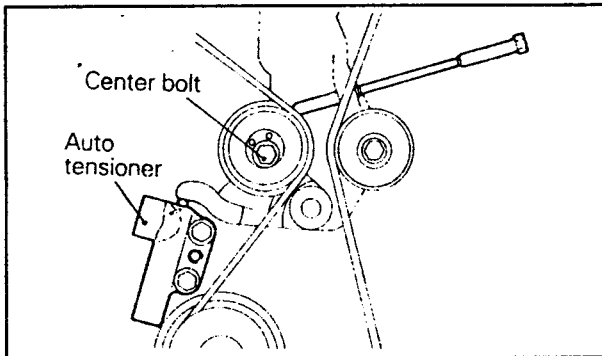

Fig. 1.60. — Releasing the automatic tensioner push rod with the special tool.
- Screw the special tool into the L.H. engine support bracket, as shown in Fig. 1.60, until it makes contact with the tensioner arm. From this position screw the tool in a little further. This will push the tensioner arm against the push rod of the automatic tensioner which will be pushed inside the body, releasing the wire lock. Grip the wire loop and pull it out as soon as the wire is free of tension.